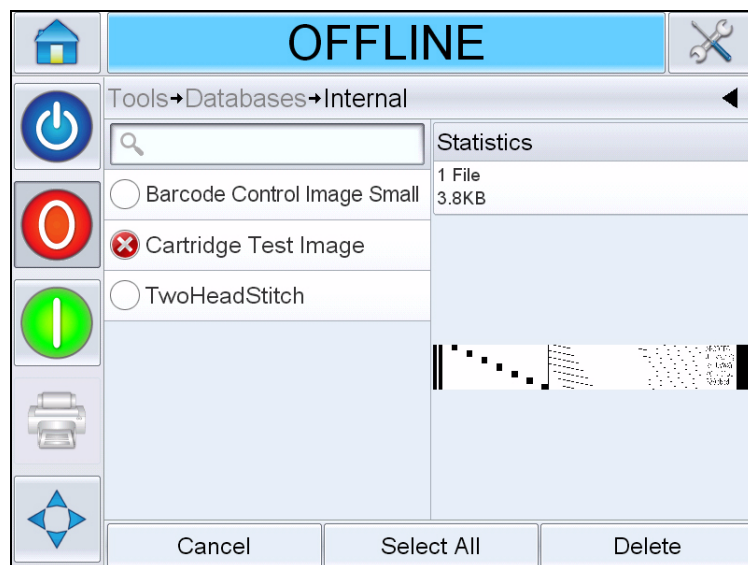

Figure 6-13: Database Delete Window
- 3 Select the required database (internal or external) and touch *Edit* to go to the deletion screen (see Figure 6-13). This page contains a list of all the available print jobs along with details of number and size of the selected Jobs.